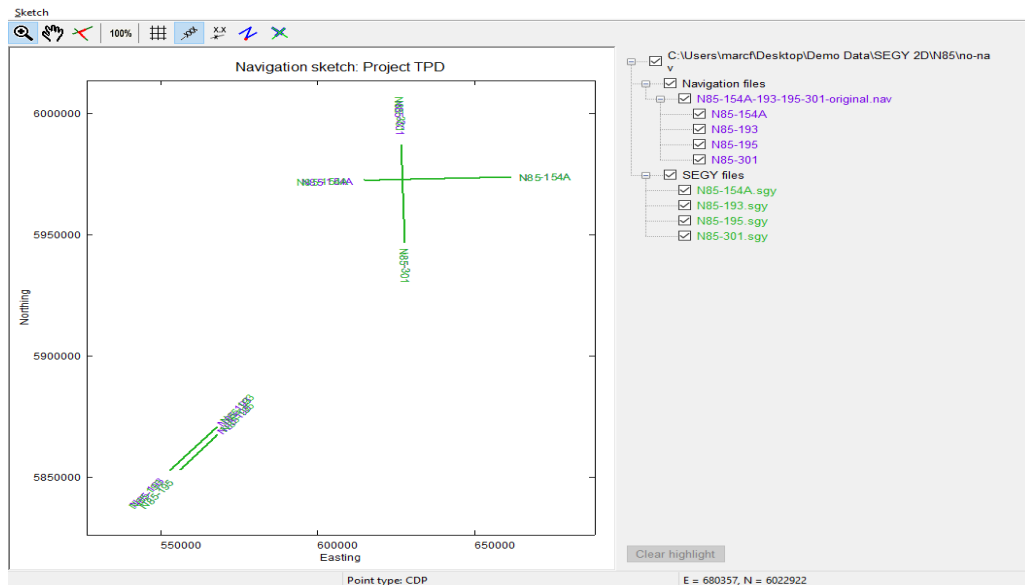

Figure 3-24 Sketch map showing both navigation and SEGY files
- i. Select All files. A Minima Progress window will open and shows progress as data is added for display. On completion the sketch map will open in a floating window (Figure 3-24).